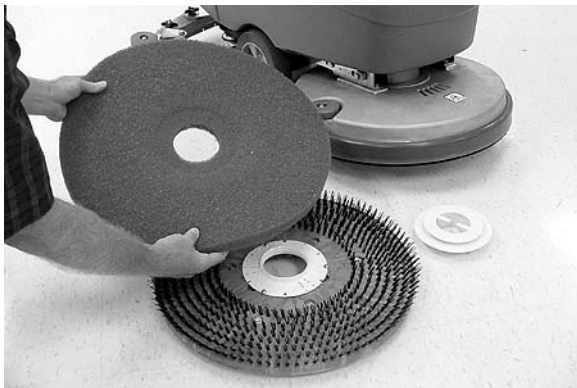

FIG. 40
- Remove the pad/brush and clean. Rotate pad or replace when worn (Figure 40).